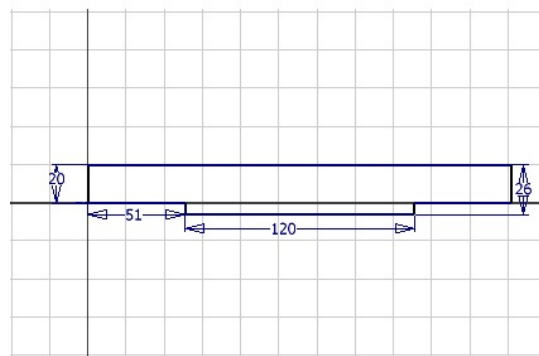

Figure 6-116 Sketch of the base feature
- a. Create the base feature on the XZ plane, refer to Figure 6-116.
4. Draw the sketch of the base feature, as shown in Figure 6-116.